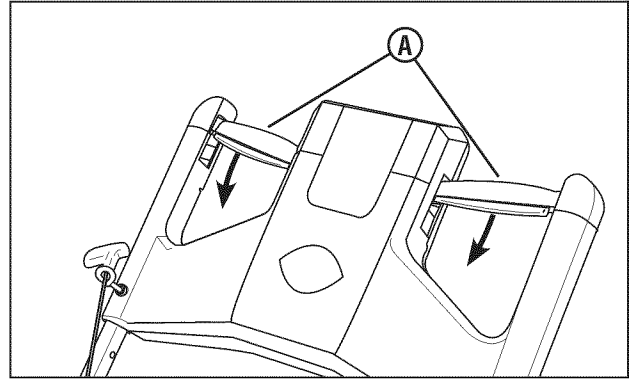

Figure 7: Propelling the mower
2. Begin slowly pushing the drive control **(A, Figure 7)** forward to propel the mower. Forward speed can be increased by pushing the drive control further forward.